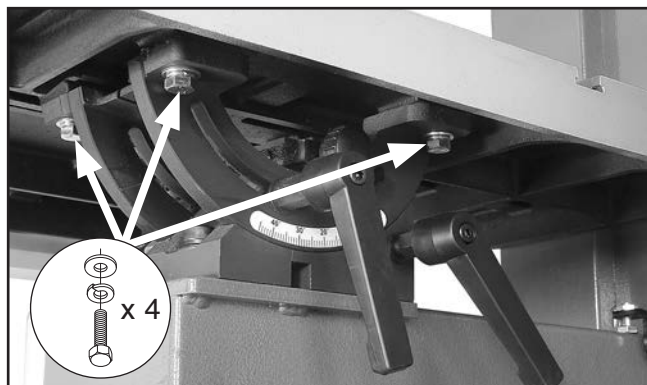

Figure 27. Table to trunnion mounting hardware installed.
5. Secure table to trunnion using (4) M8-1.25 x 25 hex bolts, (4) 8mm lock washers, and (4) 8mm flat washers (see **Figure 27**).